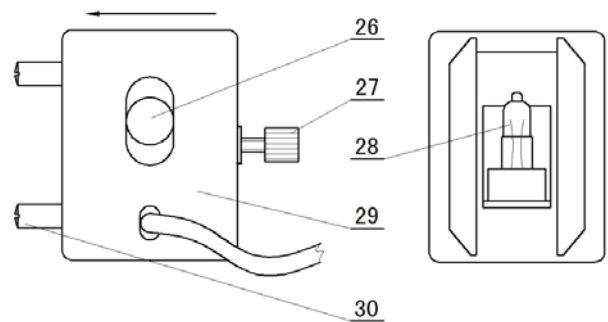

Fig 8
6.2 Light Source Adjustment (see Fig.8)